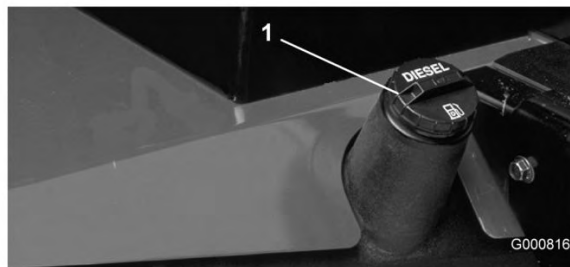

Figure 35
1. Remove fuel tank cap (Figure 35).